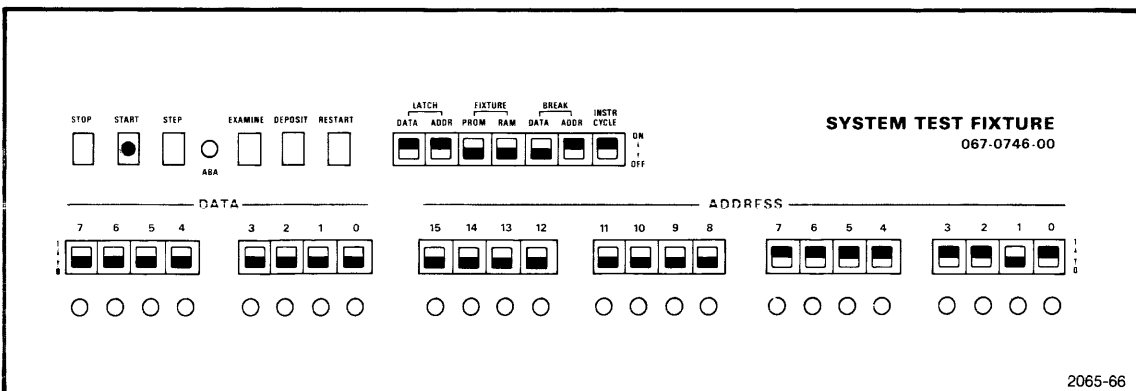

Fig. 5-18.
7. Change the Address switches to 00FD (Fig. 5-18).